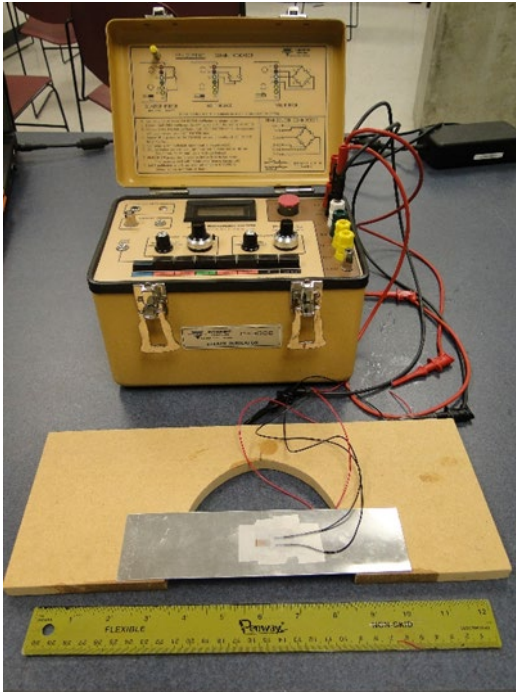

Figure 5. Bending test setup
We will first test the strain gages installed on the aluminum specimen via a three-point bending test as shown in Fig. 5.
- (d) Measure the span distance of the opening of the supporting wood plate edge-to-edge. Place the specimen across the opening and keep the gage in the middle of the span (Fig. 5). Make sure the specimen is placed on the wood plate freely with minimal pull or push by the wires in any direction.